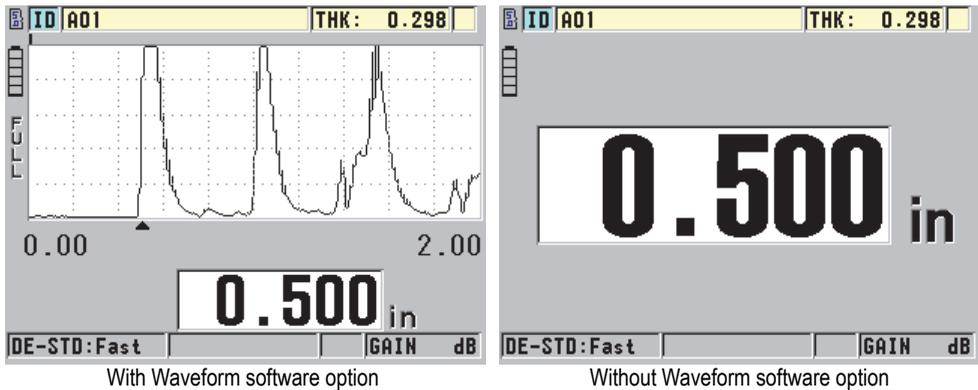

Figure 5-12 Reading the measured thickness
- Read the measured thickness value for the tested part (see Figure 5-12 on page 63).